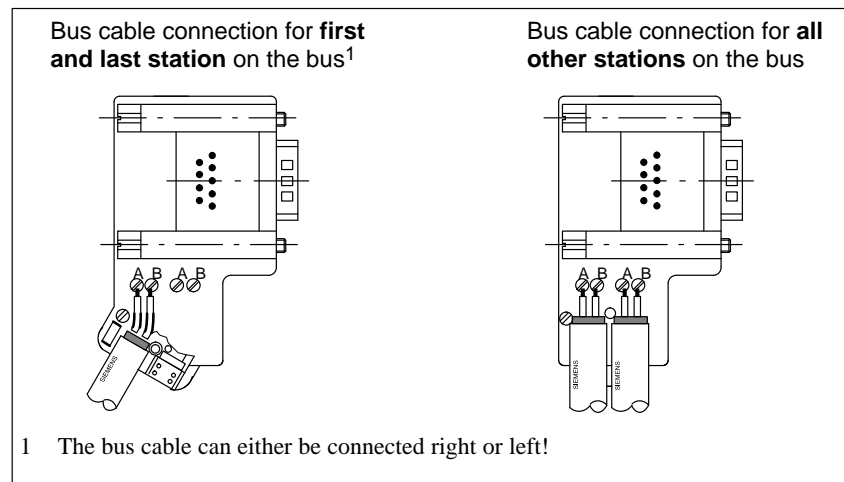

Figure 3-10 Connecting the Bus Cable at the Bus Connector (6ES7 972-0B.20 ...)
5. Insert the green and red wires into screw-type terminal block as shown in Figure 3-10.